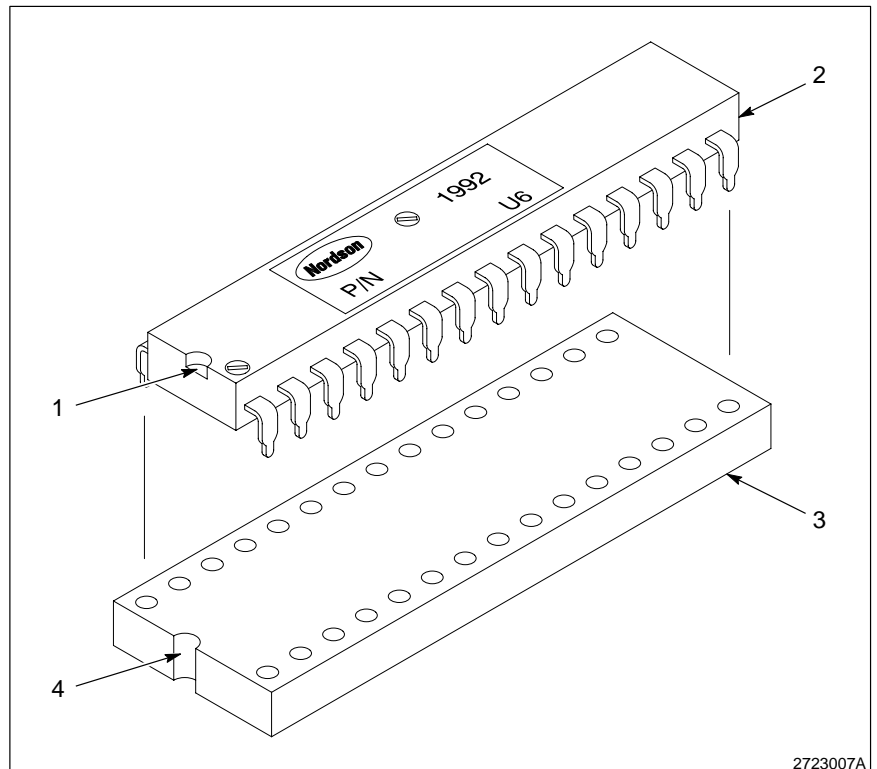

Fig. 7 Installing the CPU Board Chip Without the Chip Installation Tool
1. See Figure 7. Make sure the chip notch (1) and the receptacle notch (4) are aligned. Position the legs of one side of the EPROM chip (2) against that side of the receptacle socket (3).